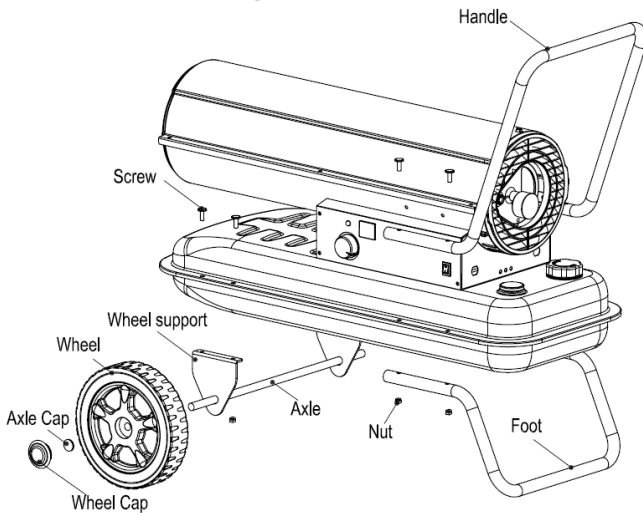

Figure 3. Handle and wheel mounting.
3. Put the handle and foot to the fuel tank holes ,Insert screws in the holes and tighten screws securely with screw driver . see **Figure 3**.